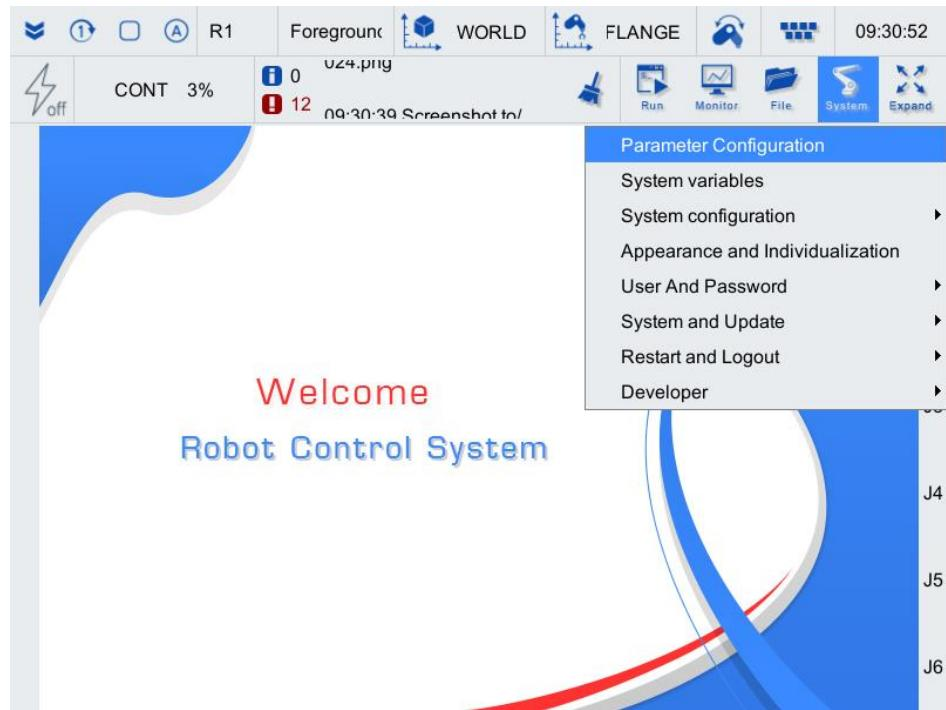

Figure 5-11 System related dropdown list
Step2. Click on [System/Parameter Configuration] in the upper right corner menu area, as shown in Figure 5-11.